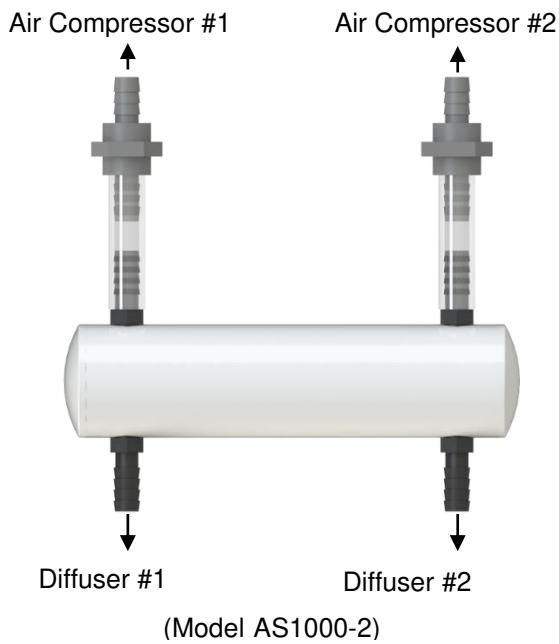
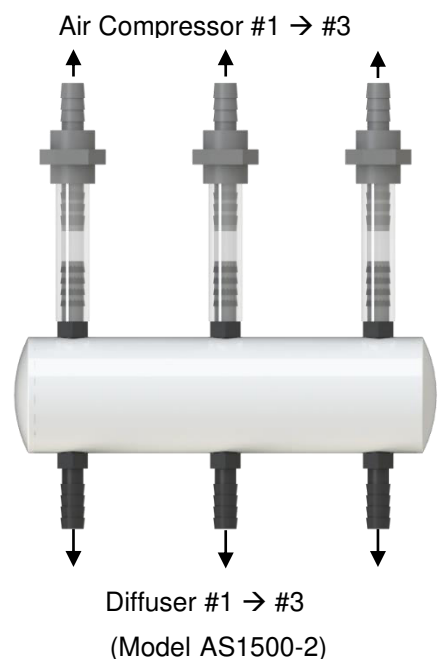
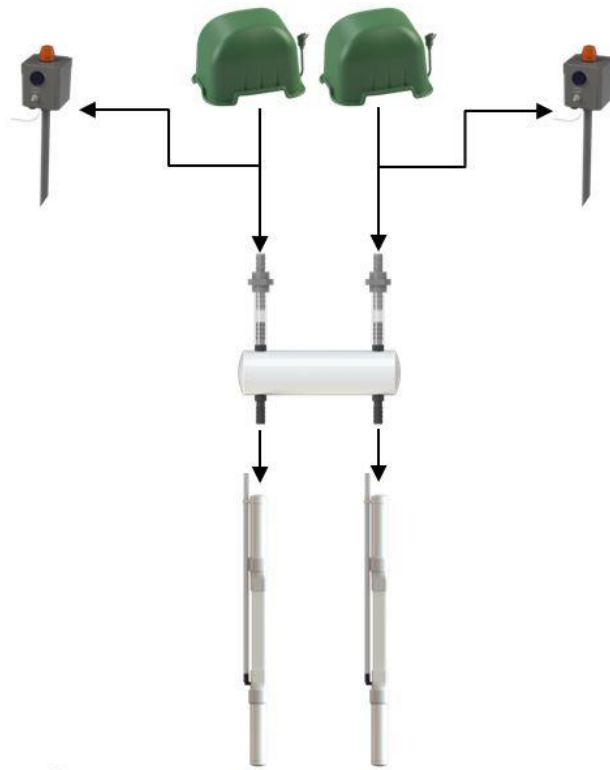
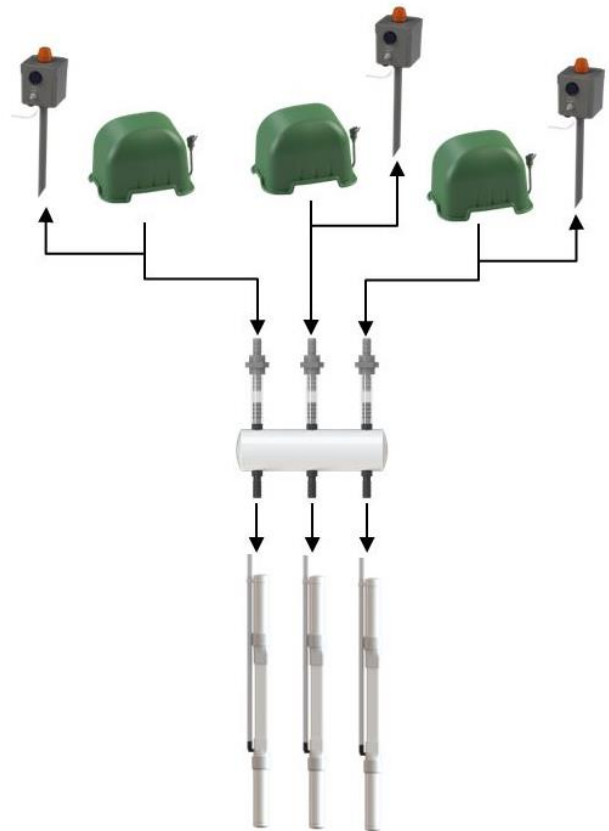

Figure 23, Manifold Assembly
Figure 24, Manifold Assembly
Figure 26, Model AS1000-2
Figure 27, Model AS1500-2
8. Models AS1000-2 and AS1500-2: Connect the air line from sintered stone diffusers and compressors to manifold assembly as shown in Figure 23 and Figure 24. Reference Figure 26 and Figure 27 to see the manifold system connection overview.